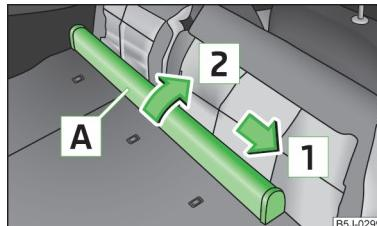

Fig. 72
- ▶ Push the net partition housing **A** » Fig. 72 in the direction of the arrow **1** and remove it from the mount on the right seat back in the direction of the arrow **2**.